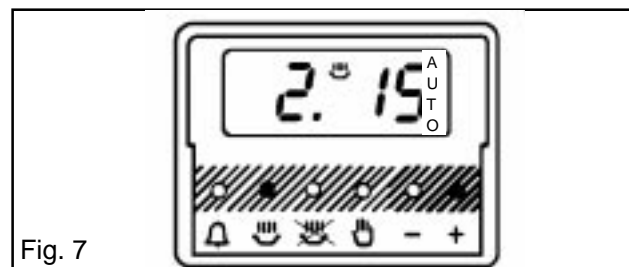

Fig. 7
- iii) To set the length of cooking time, press the cooking hours button (🔥) press the increase control (+) until the required length of cooking time is displayed, e.g. 2 hrs 15 mins as Fig. 7. If necessary depress the decrease control (-) until the correct time interval is achieved.